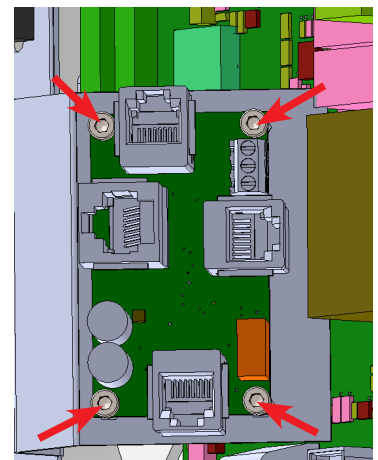

Figure 118
- Disconnect the external communication cable coming from the wall from the respective connector (Refer "5.8 Intraskan DC Console configurations:") on the Console extension board-internal and disconnect the cable from connector PB/J4 of the Console extension board-internal. Remove the Console extension board-internal from the base unit plate by removing 4 M3×6 HSHC screws at the locations shown in Figure 118 using 2.5mm allen key.
- Take the new Console extension board-internal from the packing box and fix it in the base unit with 4 M3×6 HSHC screws using 2.5mm allen key at the locations shown in Figure 118 . Connect the cable coming from power board to the PB/J4 connector on the Console extension board-internal.